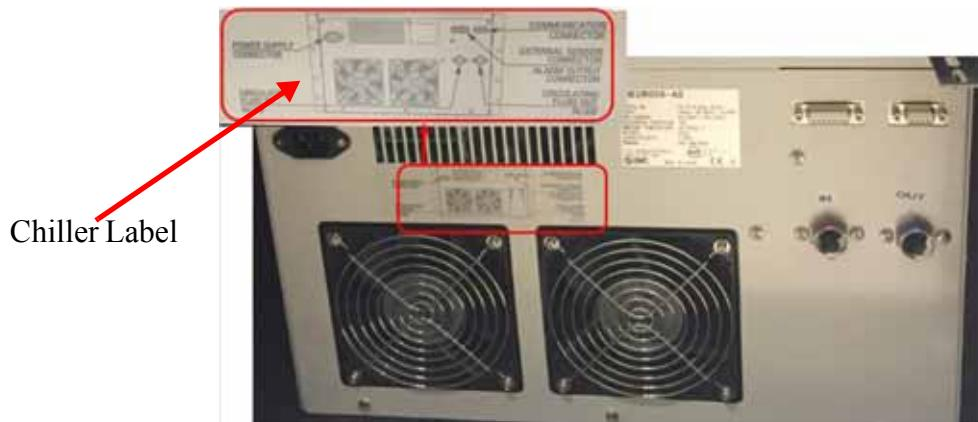

Figure 1.2-9. Chiller - Rear View
1. Connect the chiller hoses. The Chiller label identifies the IN and OUT connectors as shown in Figure 1.2-9.(The Discovery chiller hoses are the same type used on a Chameleon System.)